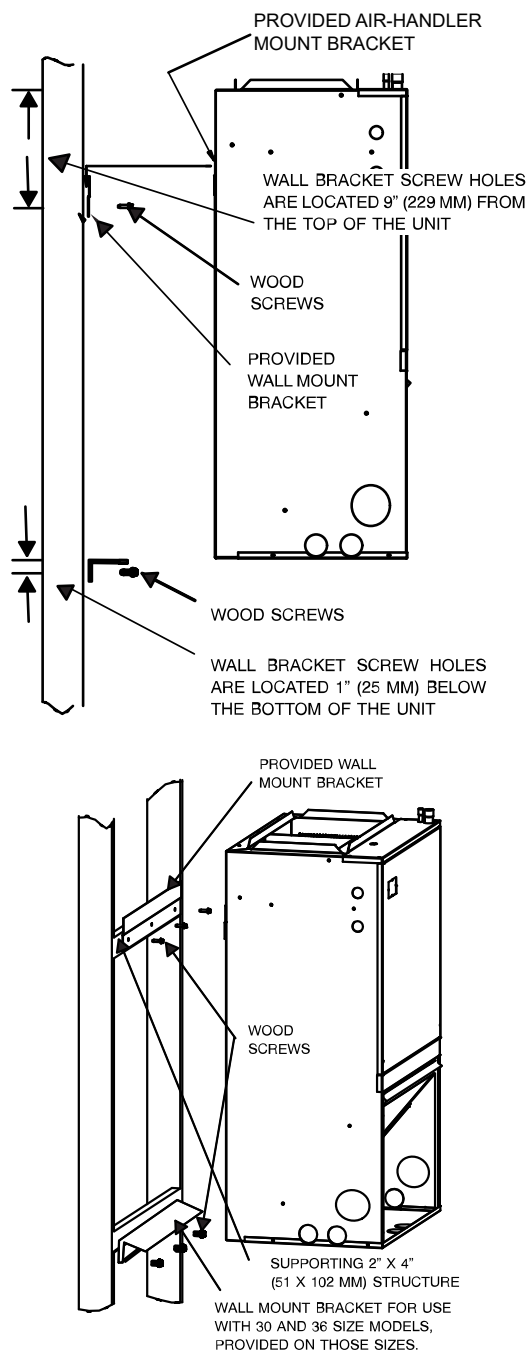

Fig. 3-1 Wall Mount Installation
The air handler comes standard with a wall mounting bracket and air handler mounting bracket. Refer to Fig. 3-1 for more detail.
3. Lift the air handler above the wall mounting bracket and attach the unit to the installed bracket. Refer to Fig. 3-1.